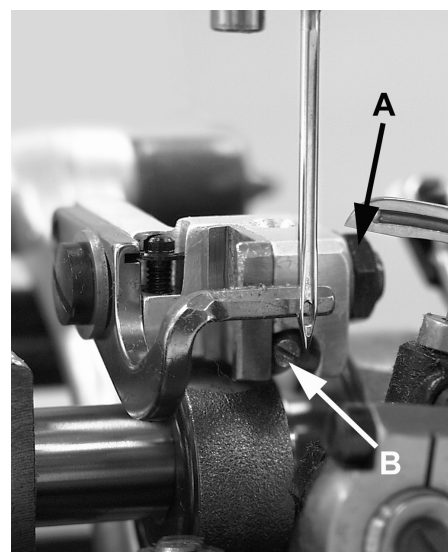

Fig 10
When the feed dog is coming out of the throat plate, the top of the feed dog should be level with the top of the throat plate. Adjustment can be made by loosening nut (A, Fig. 10) and turn screw (B) clockwise to lower front of feed dog, counterclockwise acts the reverse. When properly set, retighten nut (A).